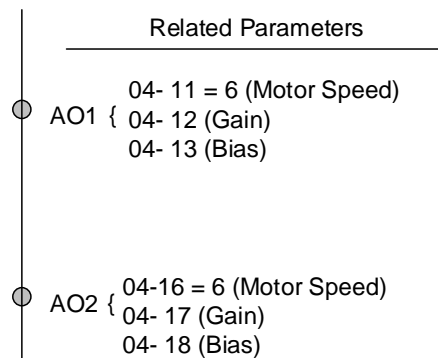

Figure 4.4.111 Analog output setting
4. See figure 4.4.111, observe the motor speed waveform and tune the gain at the same time.